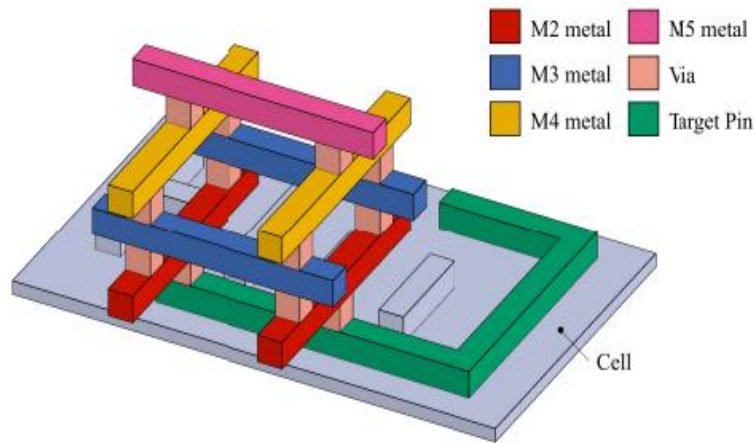

Figure 1: An illustration of the via pillar structure, which consists of parallel metal wires and multiple vias.
Figure 1: An example of concurrent detailed routing (DR) with pin pattern re-generation. (a) An instance with four pins a , b , c , and y from left to right. (b) An instance after track assignment (TA). (c) A detailed routing result after the original pin pattern. (d) A detailed routing result after the proposed flow. (e) The re-generated pin pattern after the proposed flow.